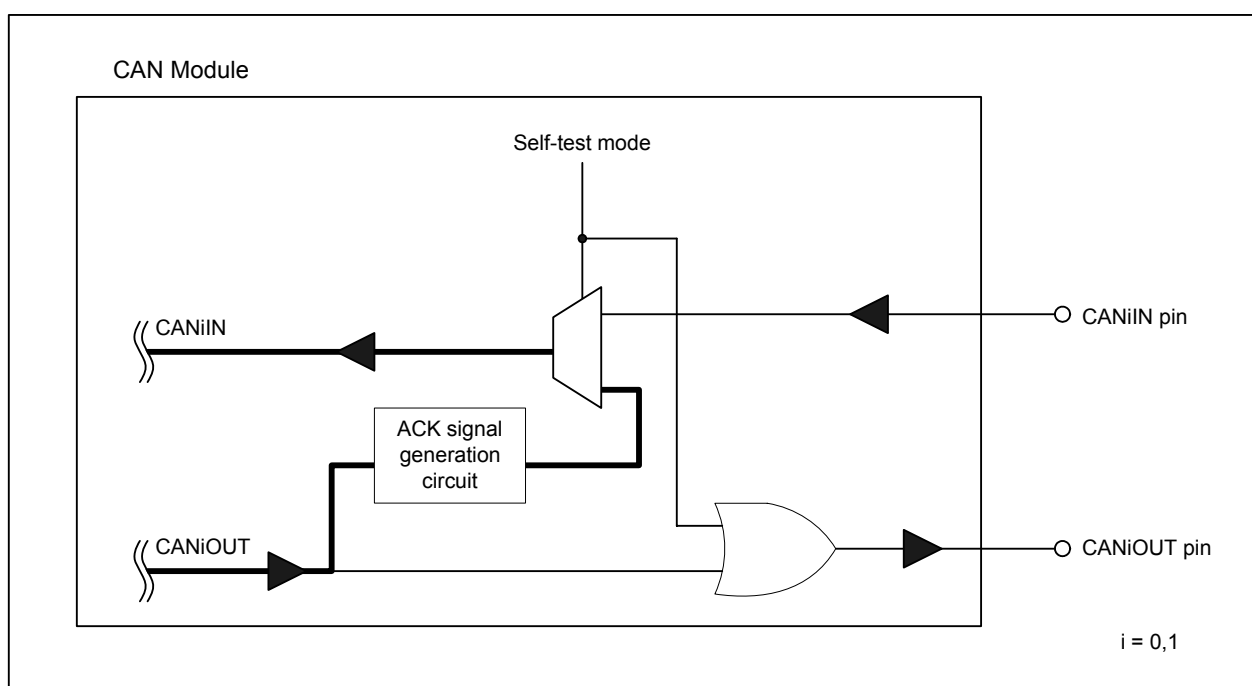

Figure 23.20 Self-Test Mode
- Self-test mode: The CAN module connects the CANiOUT pin to the CANiIN pin internally. The CAN module can communicate without additional device when using self-test mode and loop back mode. Output signal from the CANiOUT pin is fixed to “H” in self-test mode while transmitting. Figure 23.20 shows an image diagram in self-test mode.